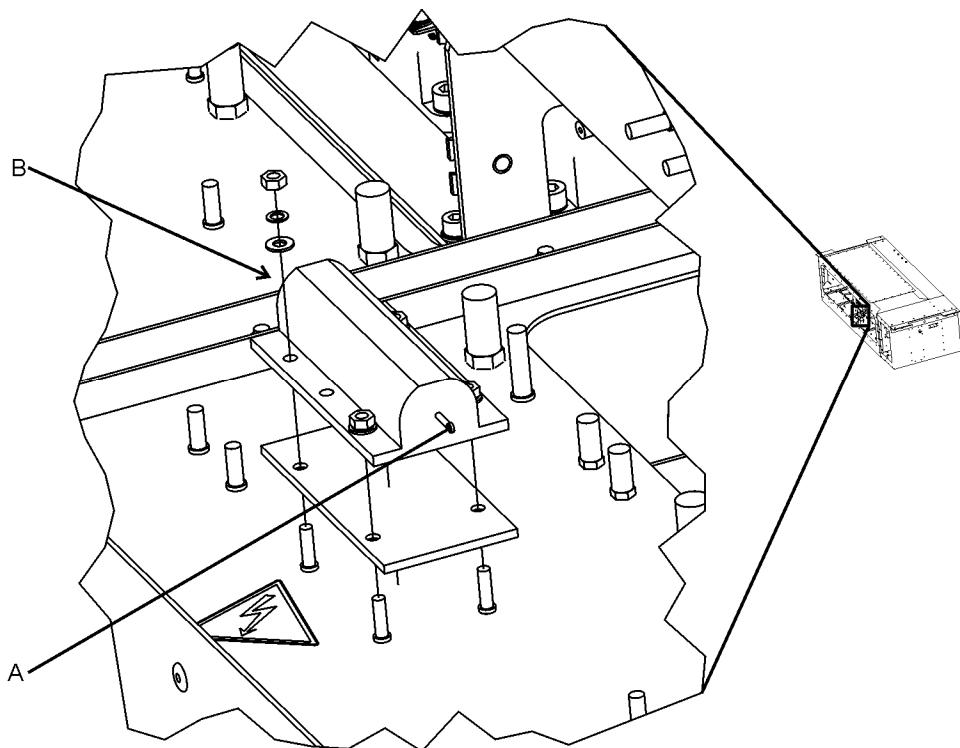

Figure 5-29: R311 Electrical Connections
- a. Disconnect cables labeled A & B (see Figure 5-29). There are two cables which are connected and fastened with an M3 nut, M3 Schnorr washer and M3 washer sets. Remove these fasteners and disconnect the cables.
- a. Connect cables labeled A & B (see Figure 5-29). There are two cable which are connected and fastened with an M3 nut, M3 Schnorr washer and M3 washer sets. Connect the cables and affix these fasteners.